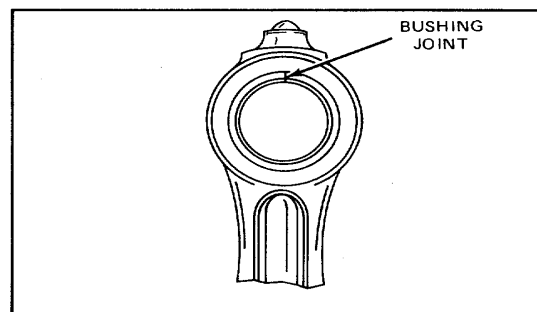

Figure 7. Location of Bushing Joint
2. Start a new bushing straight into the bore of the connecting rod, with the bushing joint at the top of the rod (Fig. 7).